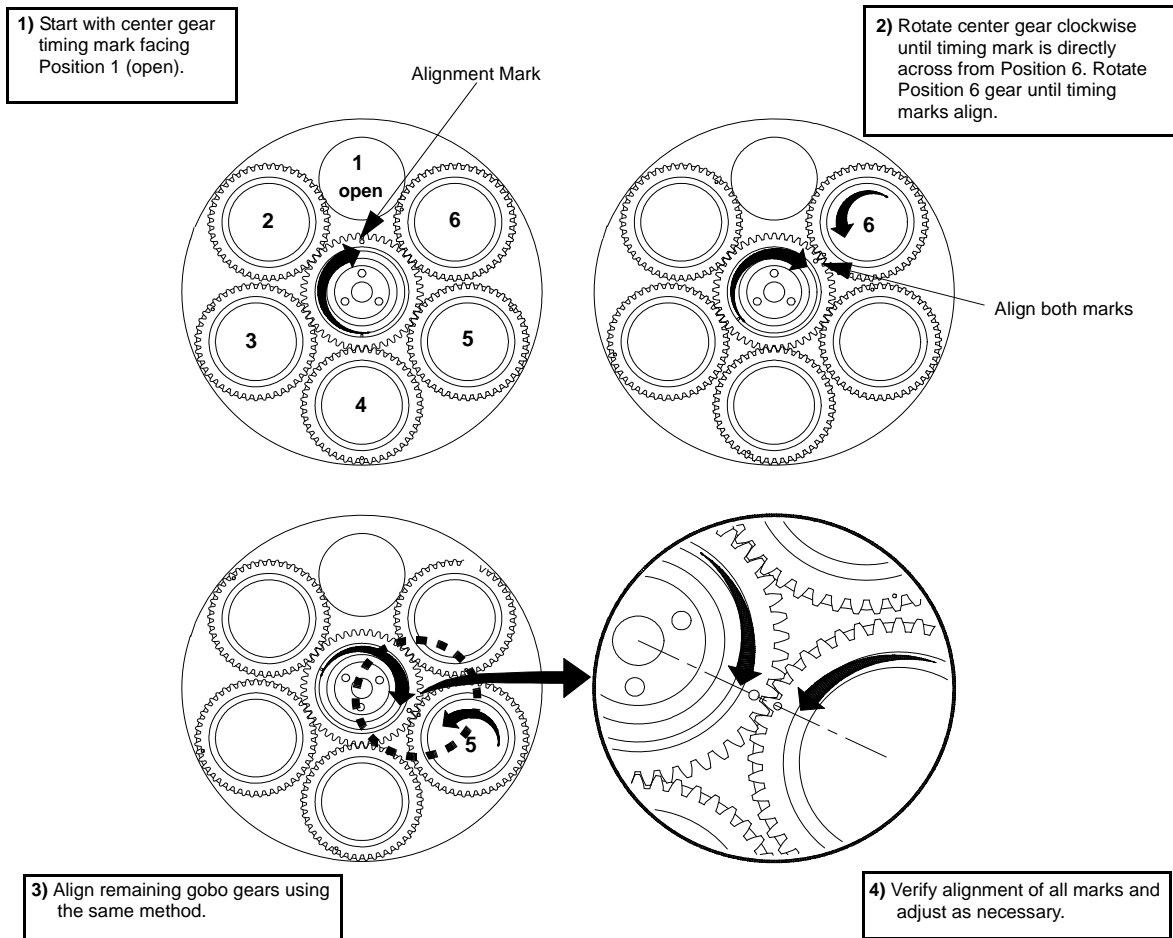

Figure 2-20: Aligning Gobo Planet Gears
- Step 1. Place center (sun) gear at starting point so that timing mark is directly facing Position 1 (open) as shown in Figure 2-20.